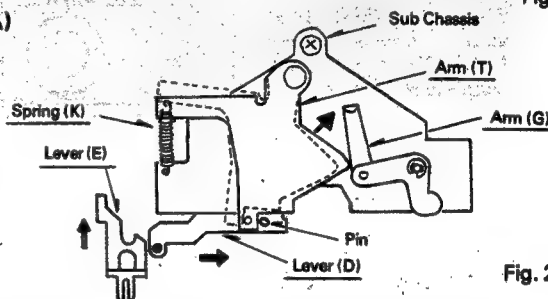

Fig. 24
With Eject Lever (E) pushed, Arm (T), through the pressure of Spring (K), moves in the direction shown by arrow in the figure and pushes Arm (G) so that the sensing mechanism is deactivated. With Eject Lever (E) returned to its normal position, Arm (T), through Lever (D), is separated from Arm (G) (Fig. 24).